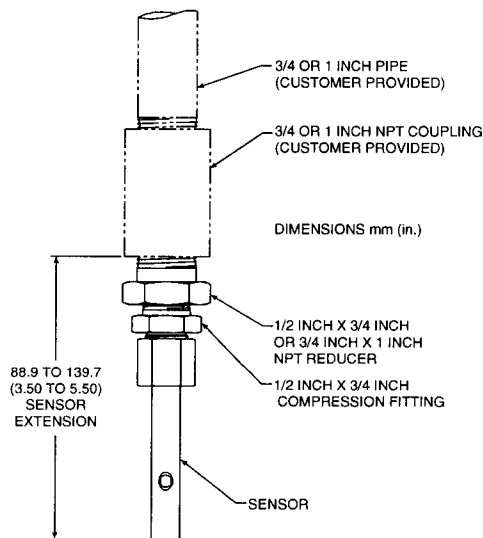

Figure 2-4. Immersion Mounting Details
1. Reverse the compression fitting assembly on the sensor so that the longer threaded section faces towards the sensor cable end (see Figure 2-4).